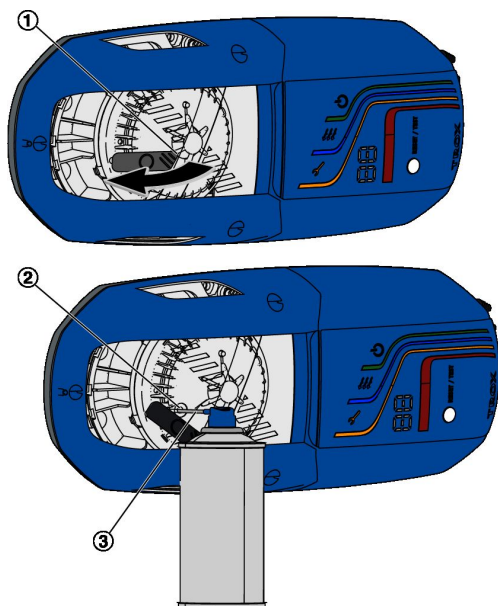

Fig. 21: Function test with test gas
1. ▶ Open the opening (Fig. 21/2) the inspection cover by pulling the rubber tab (Fig. 21/1) in the direction of the arrow.
2. ▶ Insert the spray tube (Fig. 21/3) into the opening in the inspection cover and bring it up to the sensor head.